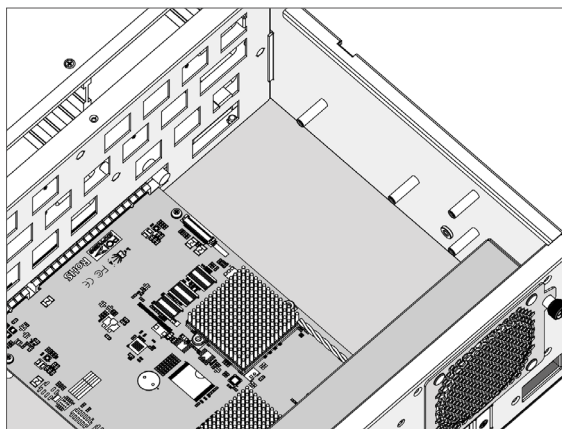

Figure B-5, Removing the Cover
1. Loosen the screws and remove the cover from the ARC-8050T5U-24R enclosure, as shown in Figure B-5.